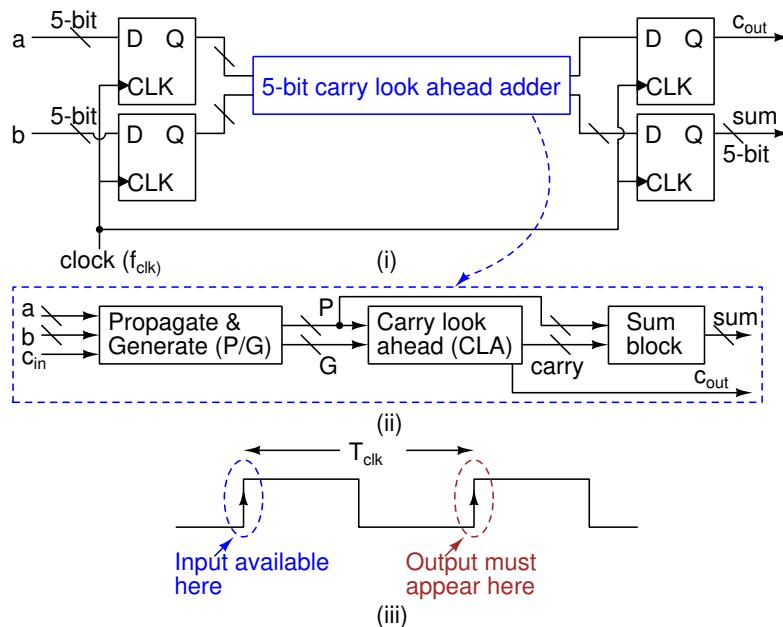

Figure 1
You are asked to design a 5-bit carry look ahead (CLA) adder as shown in Fig. 1(i). Different modules of the CLA-adder are shown in Fig. 1(ii). Each output sum bit needs to drive an inverter of size $W_p/W_n = 20\lambda/10\lambda$, where $\lambda = 0.09\mu m$. As shown in Fig. 1(iii), consider that input bits are available before the rising edge of the clock and the output should be computed and present at the next rising edge of the clock. You can choose any logic style (static, dynamic, mix) to implement the circuit.
7. Integrate different block designed in previous steps and write the netlist for the full circuit shown in figure 1(i). Use NGSPICE and verify the functionality of the circuit. Attach the properly annotated waveforms. Report the worst case delay of your adder and maximum clock speed for which your design operates correctly.